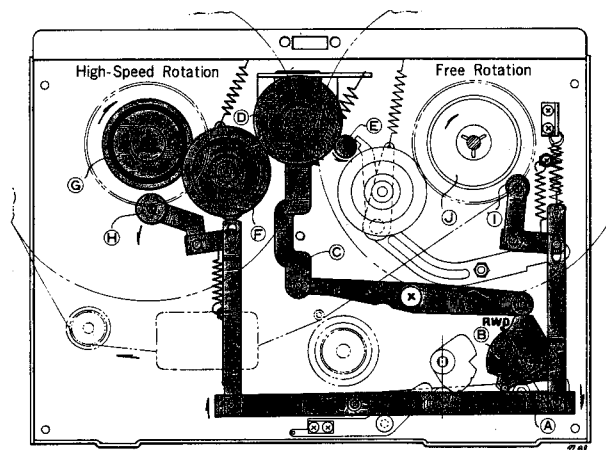

Fig. 4
Turn the *FAST FWD-REWIND knob (A)* in "REWIND" position, and the *cam (B)* under the knob pushes the *Lever (C)* up. The *Idler (D)* moves into the space between the upper part of the rotating *Motor drive bushing (E)* and the *Intermediate Pulley (F)* to transmit the high-speed rotation of the motor through the intermediate pulley to the *Supply Reel Spindle (G)*. At the same time, *Brake Rollers (H) and (I)* come off the reel spindle to free the *take-up reel spindle (J)*, thereby rewinding the tape into the supply reel at a fast speed. (See figure 4)